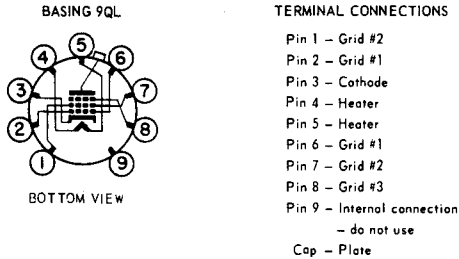

Figure 1. 9QL Tube basing
**C SETUP Switch:** The C SETUP switch is used to isolate extra connections inside of the tube such as two grid pins so that tests can be made. For example, Figure 1 shows a typical base diagram for a horizontal output tube, the 6JE6. Note that the control grid is connected to pins 2 and 6 on the tube base. Since the control grid must be picked up for the test, one of the connections must be isolated or opened up so that the test can be made. The following shows the pins isolated with the settings of the "C" SETUP switch.
In the example of Figure 1, if pin 2 were chosen to be isolated, the "C" switch would be set to position 2. If you choose to isolate pin 6, then the "C" switch would be set to 7 as indicated in the above chart. If there are no extra connections to be isolated in the tube, then the "C" switch will be set to position 6 so that all pins feed directly through.
**D SETUP Switch:** The "D" switch is used to pick up the control grid for the test on the tube. It was discovered many years ago, that approximately 97% of the electrons would go to the control grid when checking cathode emission so that this is now used as the pick-up element. In the example of Figure 1, the "D" switch would be set to one of the control grids that is not isolated. If pin 2 were to be isolated, then the "D" switch would be set to pick up pin 6. The following chart shows the positions of the "D" switch and the tube pins that are picked up:
Lets use for our example, the 6JE6 shown in Figure 1. This tube is a standard novar base tube with the control grid tied to two pins on the tube base.